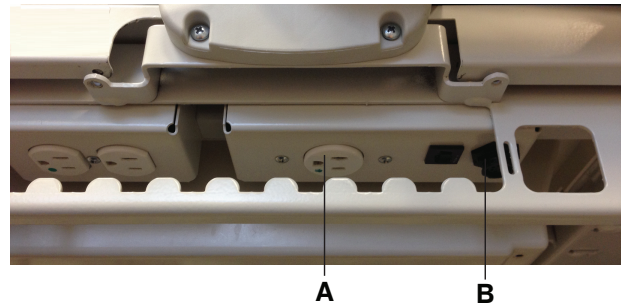

Figure 36: Auxiliary mattress connector outlet
2. Connect the integration cable from the support surface to the auxiliary mattress connector (B) (Figure 36 on page 56).
3. Plug the support surface power cord into the auxiliary mattress connector outlet (A) (Figure 36 on page 56).